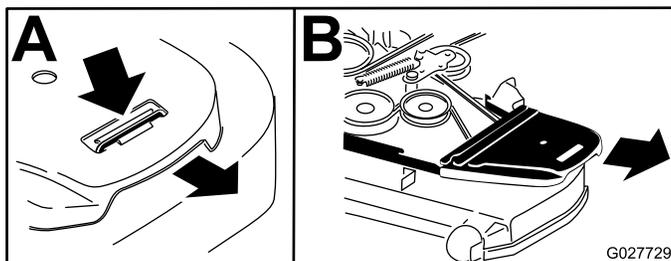

Figure 75
6. Remove the belt covers and the bolts attached to them (Figure 75).